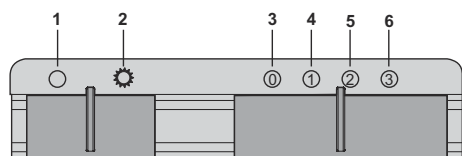

Fig. 18
1. ➤ Bring to this position to turn off the lamp (Fig. 18).
2. ➤ Bring to this position to turn on the lamp (Fig. 18).
3. ➤ Bring to this position to turn off the lamp (Fig. 18).
4. ➤ Bring to this position when you want to operate the product in 1. speed (Fig. 18).
5. ➤ Bring to this position when you want to operate the product in 2. speed (Fig. 18).
6. ➤ Bring to this position when you want to operate the product in 3. speed (Fig. 18).